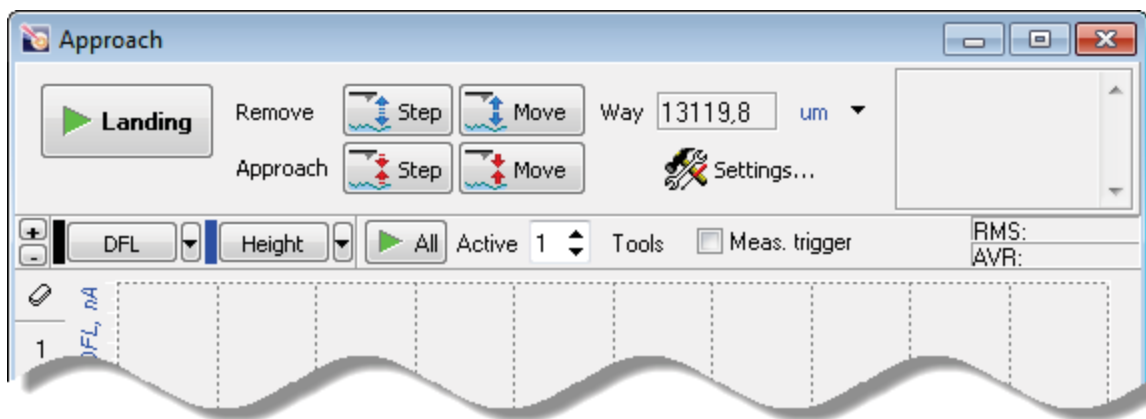

Fig. 6-28. Approach window
1. Open the **Approach** window (see Fig. 6-28) by clicking the  button.